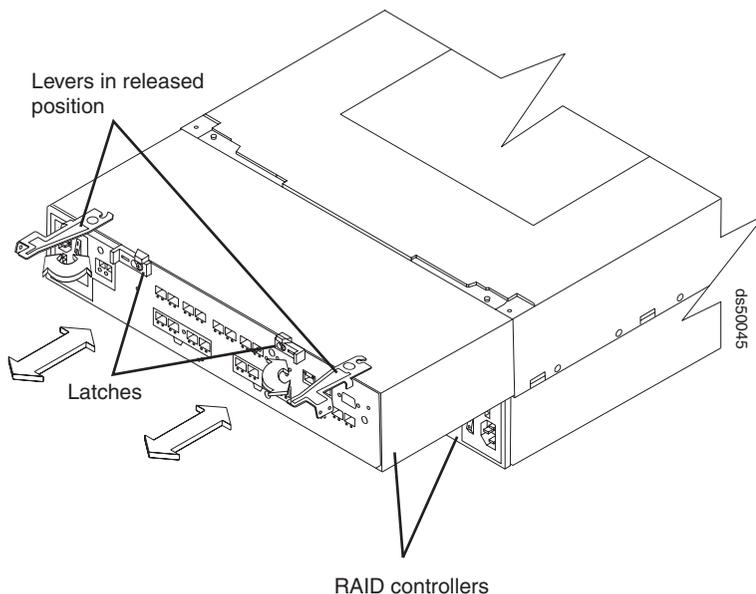

Figure 5. Removing a controller from the DS5000
11. Release the controller levers and remove the controller. Figure 5 shows the controller sliding from the storage subsystem chassis.